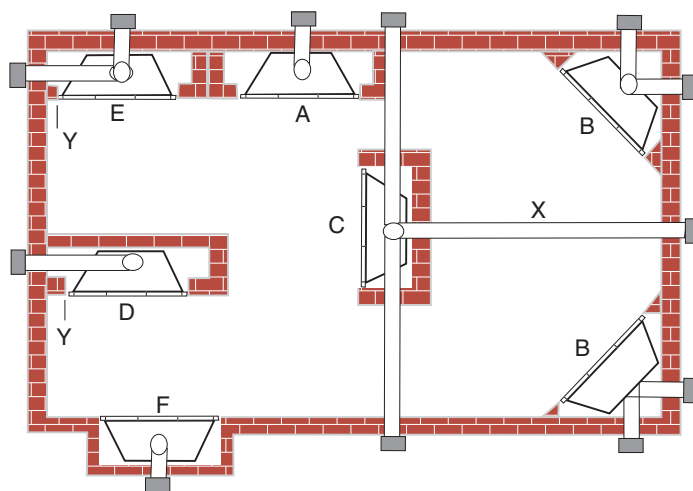

**Figure 3 -
- This fireplace may be installed along a wall, across a corner, or use an exterior chase. Refer to *Figure 3* for suggested locations.